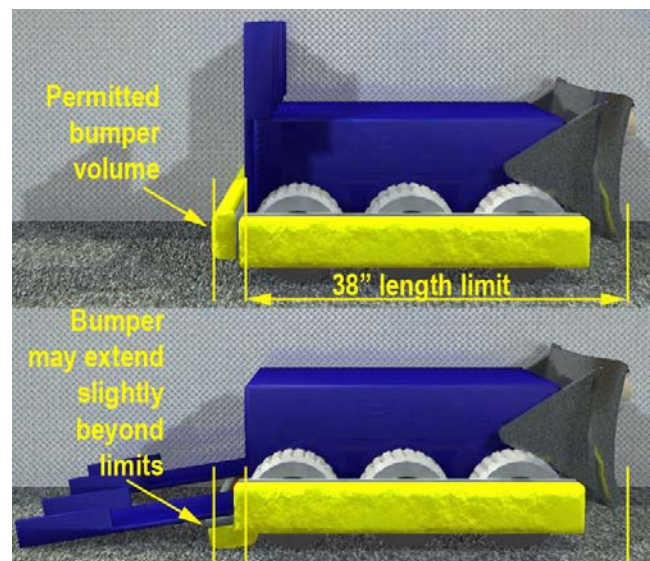

Figure 8-3
- STANDARD BUMPERS must remain within the BUMPER ZONE when the ROBOT is resting on the floor in PLAYING CONFIGURATION. They can not be articulated or moved outside of the BUMPER ZONE. The one exception to this is STANDARD BUMPERS may be within or below the BUMPER ZONE during the END GAME if the ROBOT is in its HOME ZONE (see Figure 8-3).